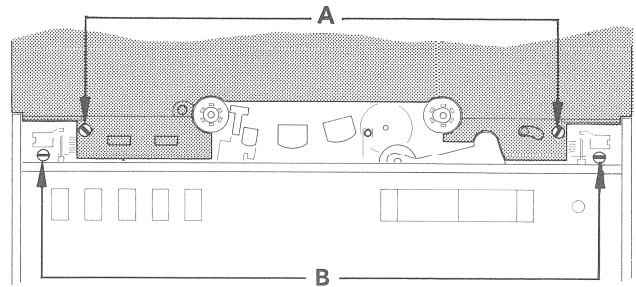

Fig. 3.2–4
- Undo screw A (fig. 3.2–4). Pull cover panel off (Upper rim, 3 retainers).
- Undo screws B (fig. 3.2–4). Pull out power switch knob as well as all rotary knobs and discs. Save retaining ring of power switch.